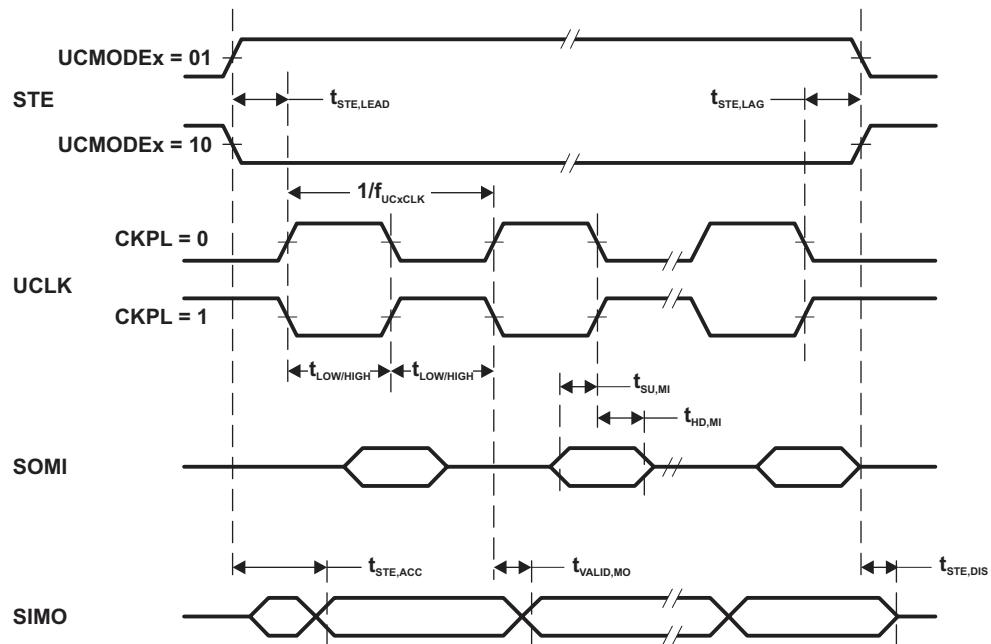
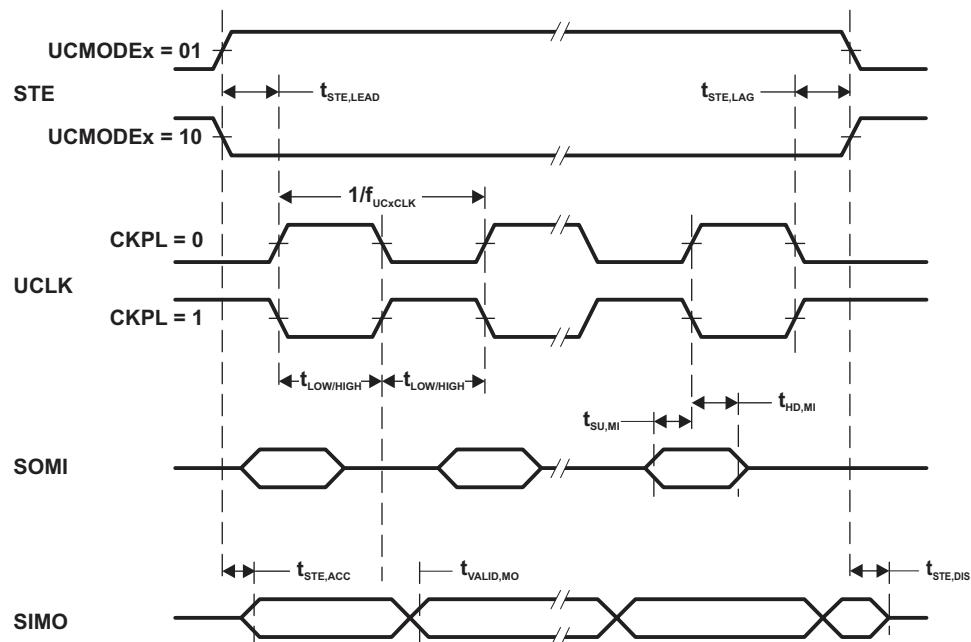

Figure 4-6. SPI Master Mode, CKPH = 0
Figure 4-7. SPI Master Mode, CKPH = 1
(2) Specifies the time to drive the next valid data to the SIMO output after the output changing UCLK clock edge. See the timing diagrams in Figure 4-6 and Figure 4-7.
(3) Specifies how long data on the SIMO output is valid after the output changing UCLK clock edge. Negative values indicate that the data on the SIMO output can become invalid before the output changing clock edge observed on UCLK. See the timing diagrams in Figure 4-6 and Figure 4-7.